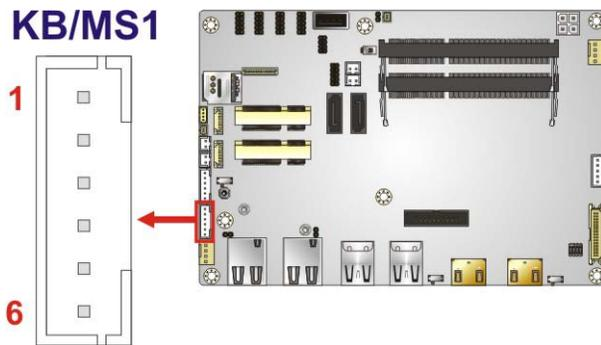

Figure 4-10: Keyboard and Mouse Connector Location
- CN Location: See **Figure 4-10**